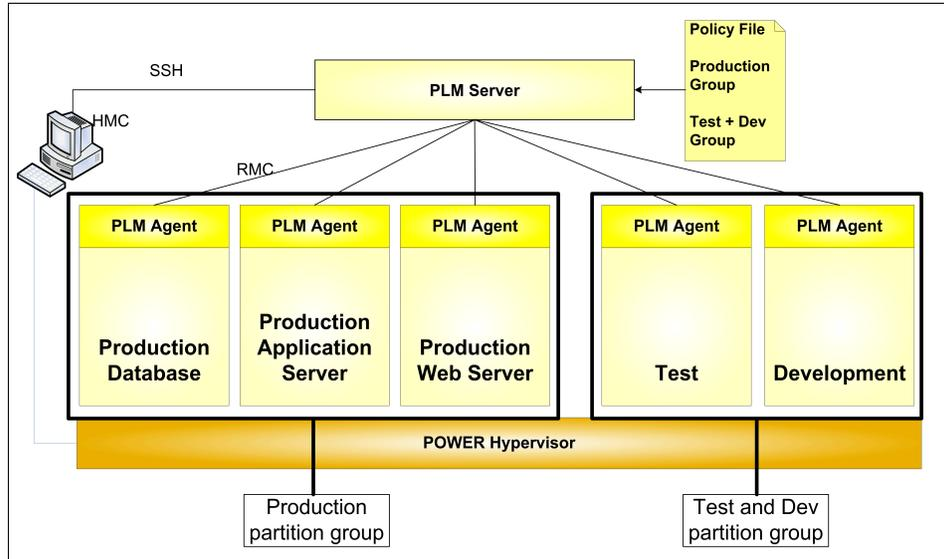

Figure 6-1 PLM architecture
PLM uses a client/server model, shown in Figure 6-1 on page 373, to monitor and manage partition resources. The clients act as agents on each of the managed partitions. The PLM server configures each of the agents (clients), setting the thresholds at which the server should be notified. The agents monitor the partition’s resource usage and notify the PLM server whenever PLM-set thresholds are passed (under or over-utilized). Based on a user-defined resource management policy, the PLM server invokes dynamic reconfiguration (DR) operations through the HMC to move resources from a spare-pool to a partition or between partitions.
PLM allows for groups of partitions. Resources within a group are managed independently. In Figure 6-1, two partition groups are shown, one for the production partitions, and the other for test and development.